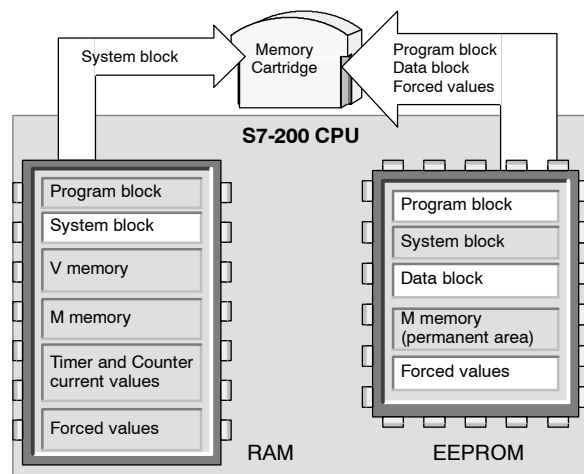

Figure 4-18 Copying to a Memory Cartridge
3. Select the **PLC > Program Memory Cartridge** menu command to copy the program to the memory cartridge. Figure 4-18 shows the elements of the CPU memory that are stored on the memory cartridge.